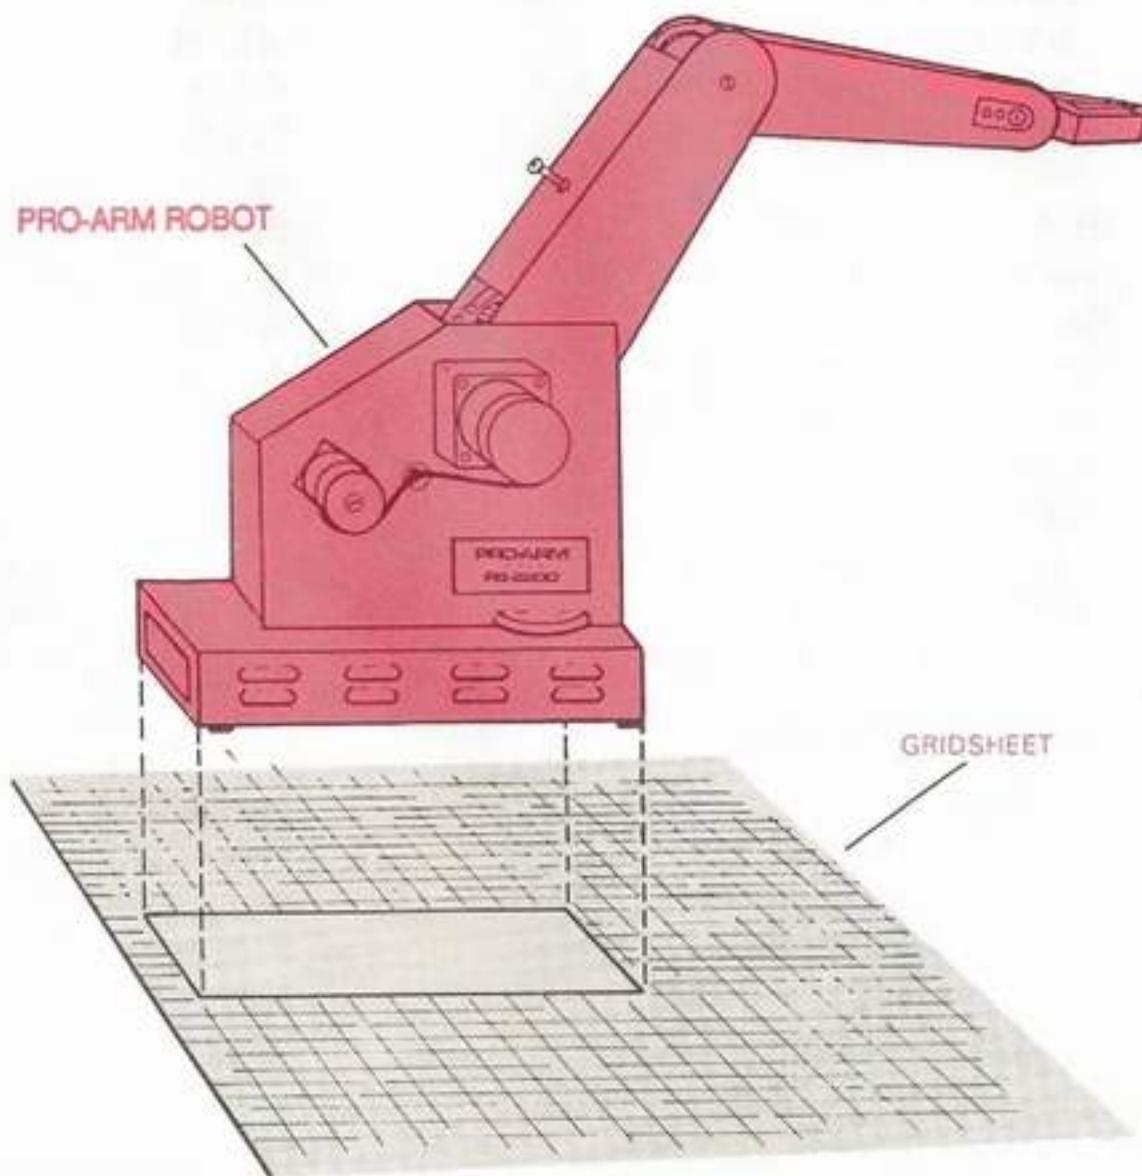

Fig. 3: Positioning the Pro-Arm on the Grid Sheet
- c. Place the Pro-Arm robot on the grid sheet in the position indicated. (Refer to Fig. 3.)